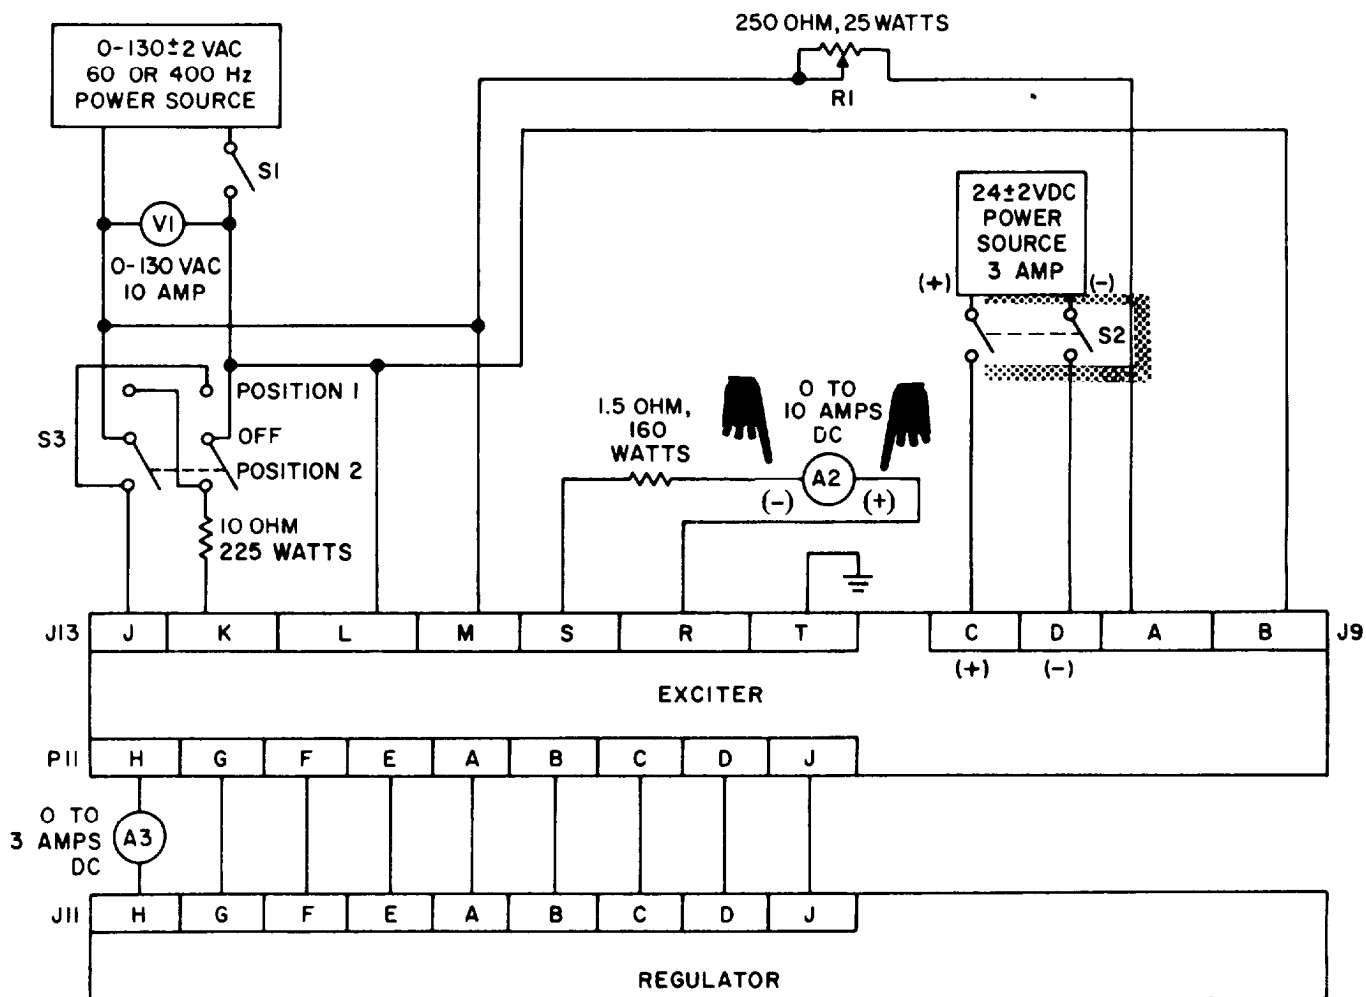

Figure 6-16. Exciter regulator (A10, A11) test setup
a. Connect the exciter-regulator to test equipment as illustrated in figure 6-16 and perform test specified in procedural analysis table 6-7.
| 1. | Connect the static exciter-regulator to the test equipment depicted in figure 6-16 and open all switches. | (make certain that regulator board is properly connected to static exciter). | (Refer to Schematic Diagram Figures 1-10 and 1-12) | |